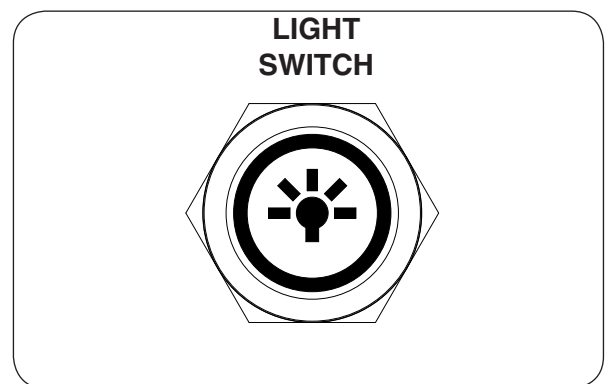

Fig. 10-3 Light switch
This key (and the entire remote) only works when the light switch located below the grill's drip tray is in the ON position. See Fig. 10-3.
1. Push the light switch (below grill's drip tray) to the ON position. The light switch will light up when on. See Fig. 10-3.